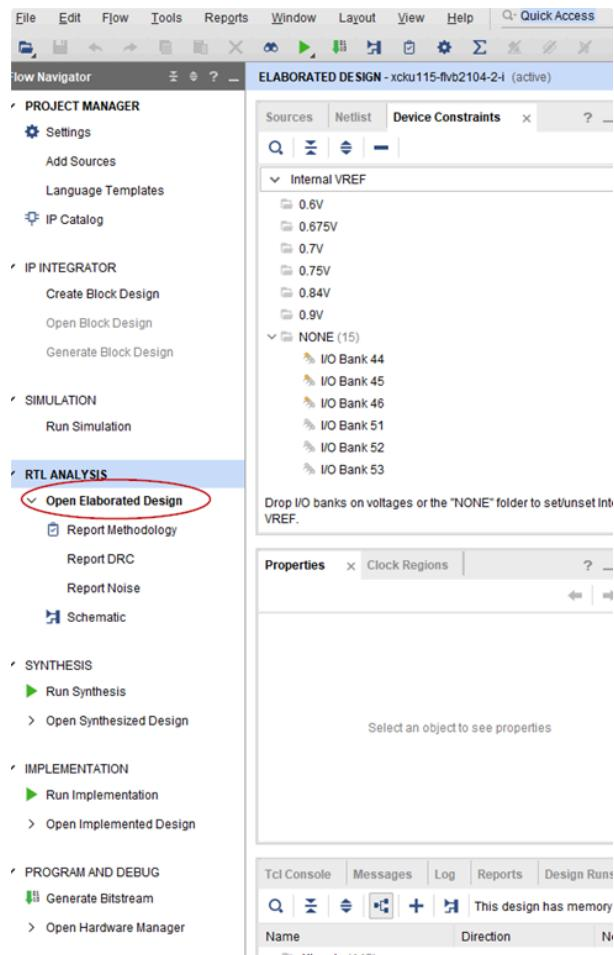

Figure 16: Implement Design
- Begin by opening the project and then click “Open Implemented Design” (Figure 16)